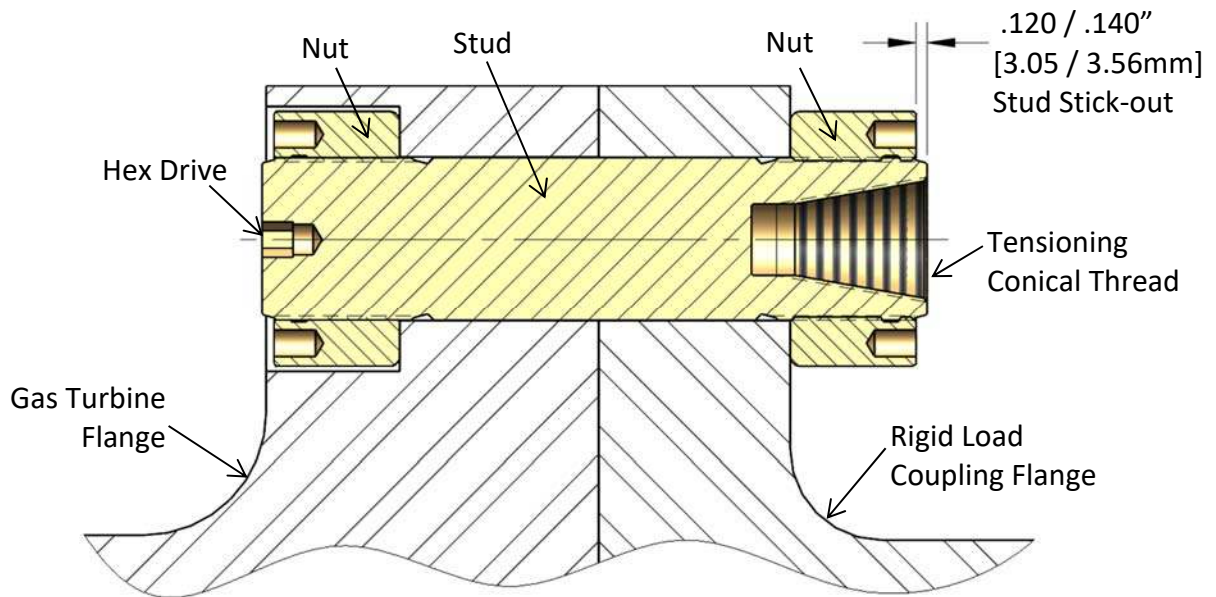

Figure 6A – Cross-section View of Gas Turbine to Rigid Load Coupling Bolted Flange Connection
2. Slide the stud and cylindrical nut assembly into the flange as shown in Figures 6A, 6B, and 6C.